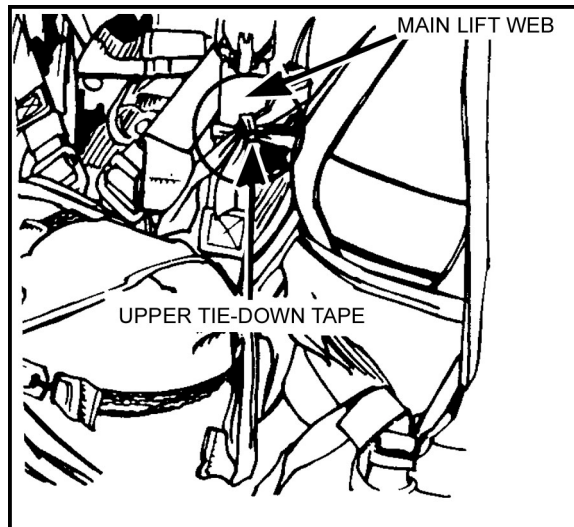

Figure 12-44. Upper tie-down.
- c. The upper tie-down tape is routed around the left main lift web directly below the chest strap. It is tied snugly with a single-loop bowknot (Figure 12-44).